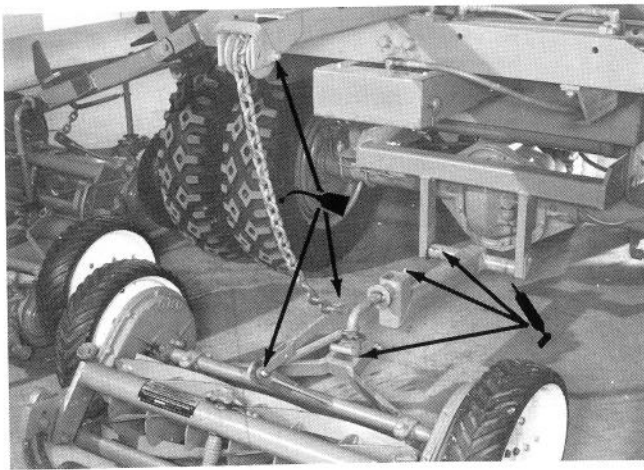

Figure 43
2. Use 0 or 00 Grease in the universal joints on each end of the drive shaft (Fig. 43).